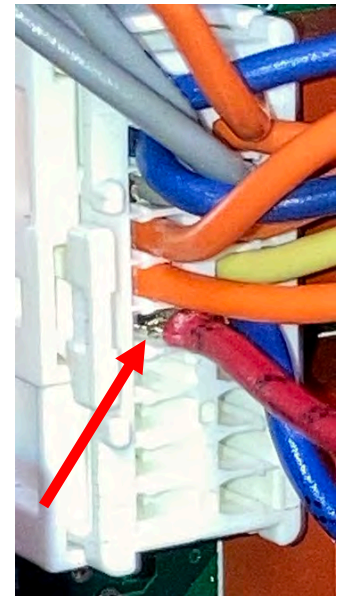

Figure 28
- j. Insert the red wire directly under the orange wire, on the J1 vertical connector attached to the SIB board (see Figure 28). **(NOTE: Orient the flag of the wire terminal towards the outer edge of the plastic connector)**. Gently pull on the connector to ensure it is locked into place.